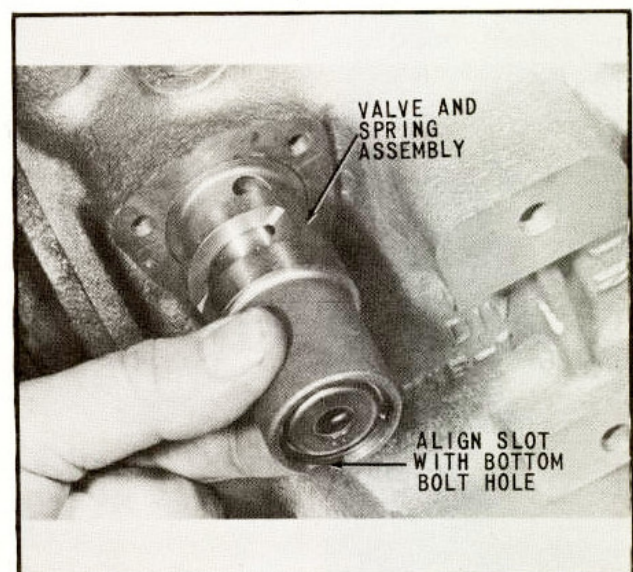

Fig. 70 Installation of Valve and Spring Assembly
76. Place parts assembled in steps 1 through 72 inclusive, on clean flat surface. Into the opening provided high on the right-rear side of the transmission case, place the valve and spring assembly, threaded end entering first, (Fig. 70). This is a hand assembly and is completed when the valve and spring assembly "bottoms" against the shoulder in the case bore.
77. To insure neutral positioning of valve and easier assembly of lever, align .369-.376 width slot in valve with bottom 1/4-20 bolt hole in valve cover face of case as shown in (Fig. 70).